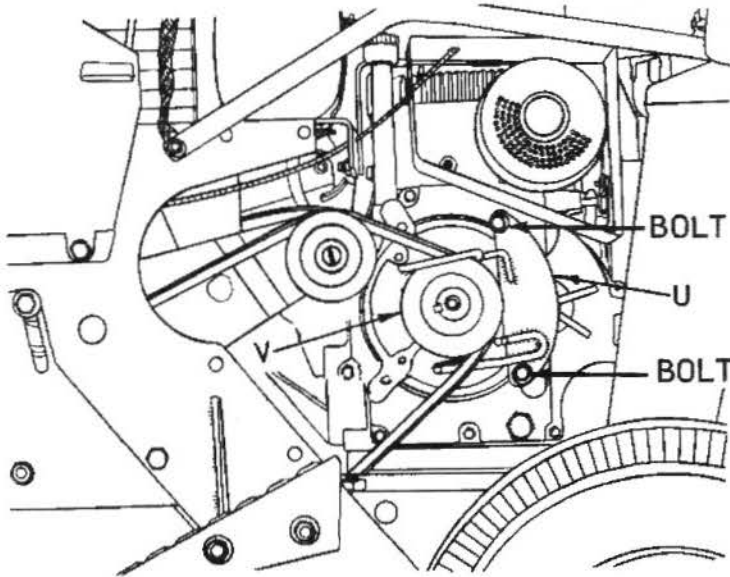

FIG. 10
16. Refer to Fig. 10. Remove two bolts holding belt guide assembly (U) to engine as shown and remove belt guide assembly.
17. Depress clutch pedal and engage parking brake. Loosen two set screws in engine pulley (V), then slide pulley and belt from engine shaft.
18. Place transaxle drive belt (W), on new engine pulley (X), and slip new engine pulley on engine shaft as shown. Align new pulley (X), with idler pulley (Y). Tighten set screws in new engine pulley securely. New pulley can be left on for use with mower. New pulley guard must also be used with new pulley.
19. Install snow thrower drive belt (Z), on new engine pulley (X), as shown.
20. Replace belt guide assembly (U), removed in step 16, Fig. 10.